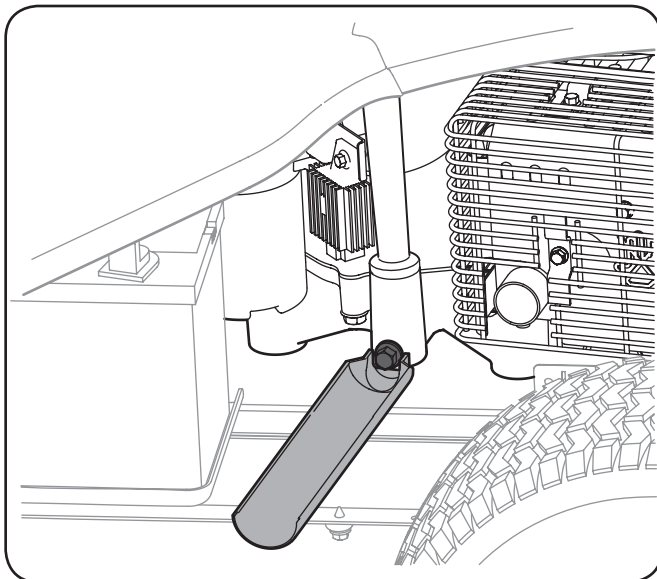

Figure 6-1
4. Snap the small end of oil drain sleeve onto the space provided around the oil drain plug. See Figure 6-1.